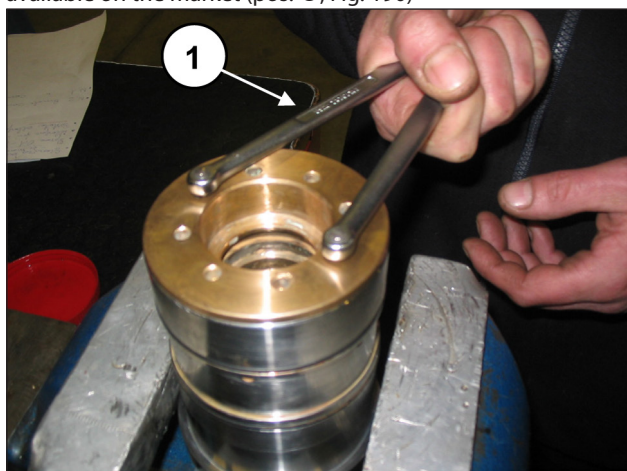

Fig. 190
Tighten using a compass spanner with Ø5 round ends, available on the market (pos. ①, Fig. 190)